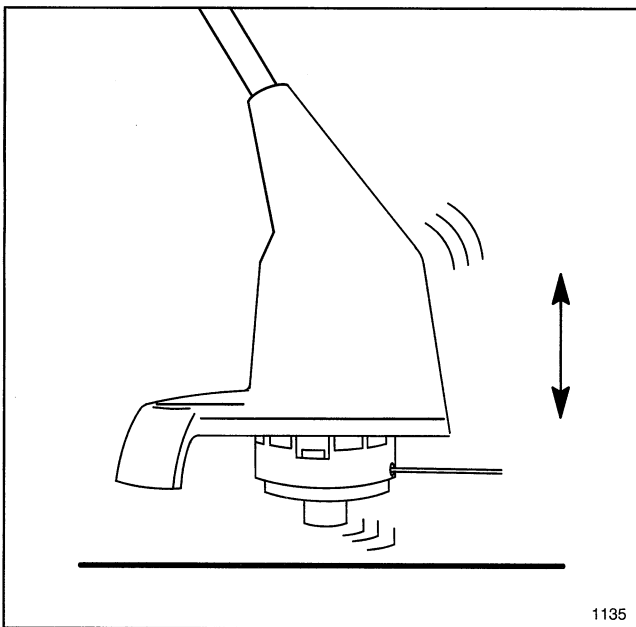

Figure 10
1. To lengthen line, firmly tap spool on the ground while the motor continues to run. The line will be fed from the spool and cut off to the proper length by the cutting knife attached to the shield (Fig. 10).